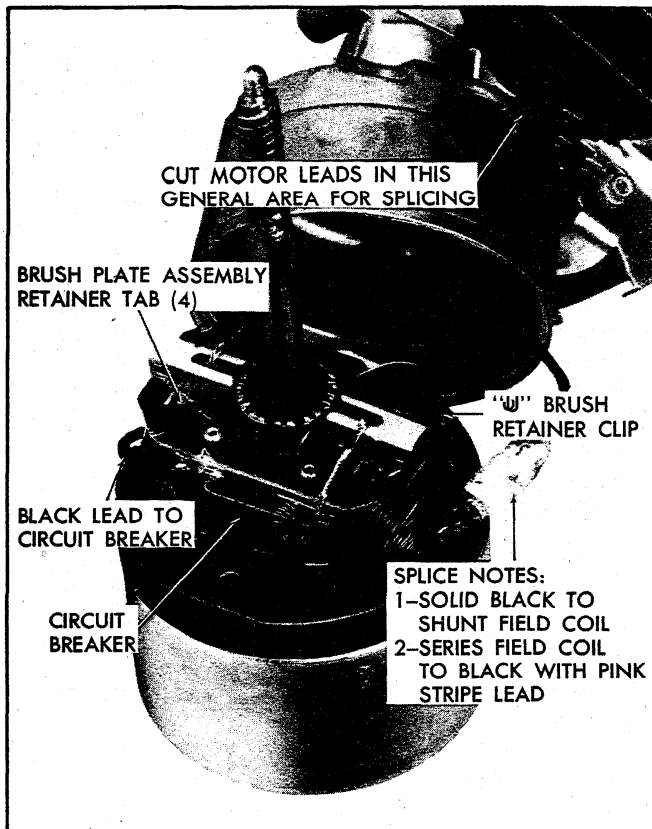

Fig. 77 - Circuit Breaker
4. Unsolder the black lead from circuit breaker (fig. 77).
5. Straighten out the 4 tabs that secure the brush plate to the field coil retainers (fig. 77).